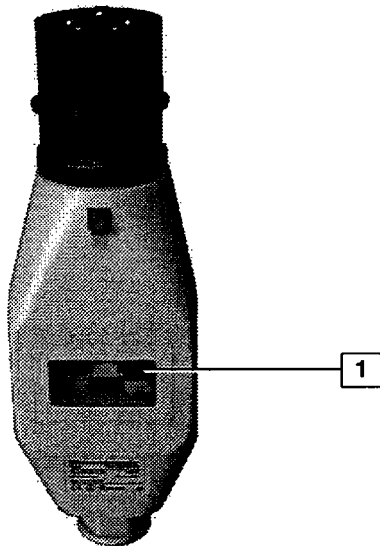

Fig. 12 Motor protection switch (three-phase motor)
- **Three-phase current:** the motor is switched off by pressing the stop button (1, Fig. 12).